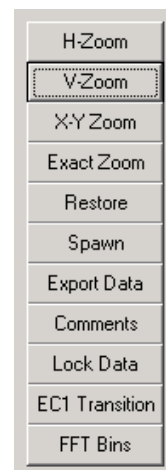
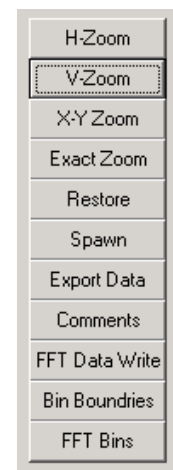

Figure 7. Time-Domain Plot Hidden Menu
Figure 8. FFT Plot Hidden Menu
To zoom in on any portion of a displayed analog signal or FFT, select the portion of the signal by holding down the left mouse button and dragging across the area of interest. Bring up a hidden menu by clicking the right mouse button in the active window. The hidden menus are slightly different for the time-domain and FFT plots. These hidden menus have several options, including zooming and the capability to export time-domain data. Select from the menus using the left mouse button (see Figure 7 and Figure 8)
3. The time-domain data is graphed in a new window. Right click the graph to open the hidden menu. Choose **Lock Data** from the menu. See Figure 7 in the Zooming and Exporting Data section.
4. Click **OK**. The time-domain data is graphed in a new window. Right click the graph to open the hidden menu. Select **Lock Data** from the menu. (See Figure 7.)